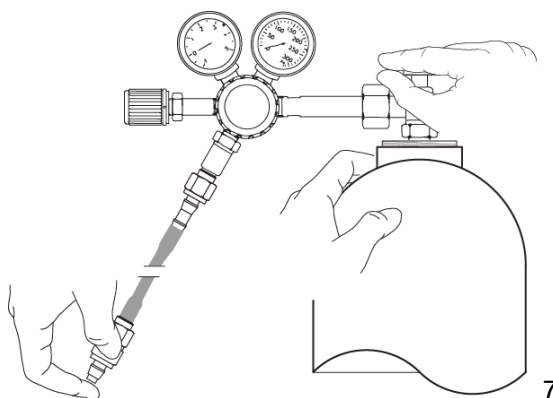

Figure 34 Pressure Reduction Valve
- If necessary, disconnect the tube from the gas control module's inlet port on the back and adjust the outlet pressure by turning the pressure reduction valve and pressing in the quick connector's valve (Step 4) (see Figure 34, below).